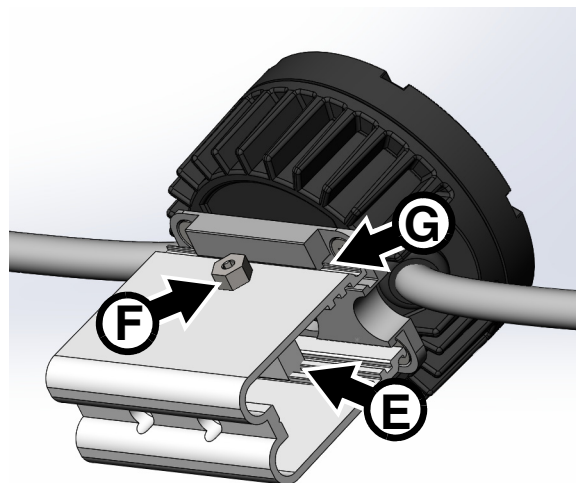

Figure 7: Installing a Dot on a mounting profile
7. See Figure 7. Clip the Dot onto the mounting profile so that the lips on the mounting bracket engage in the channels on both sides of the profile as shown at **G**.